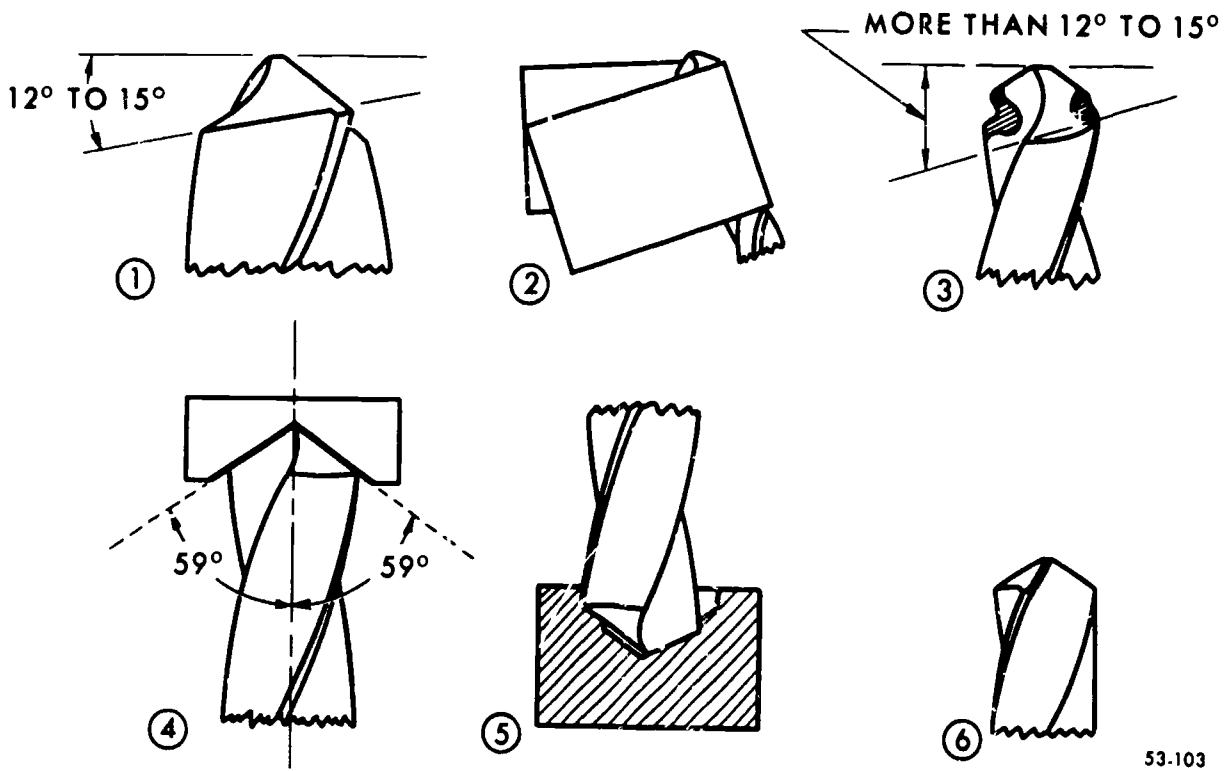
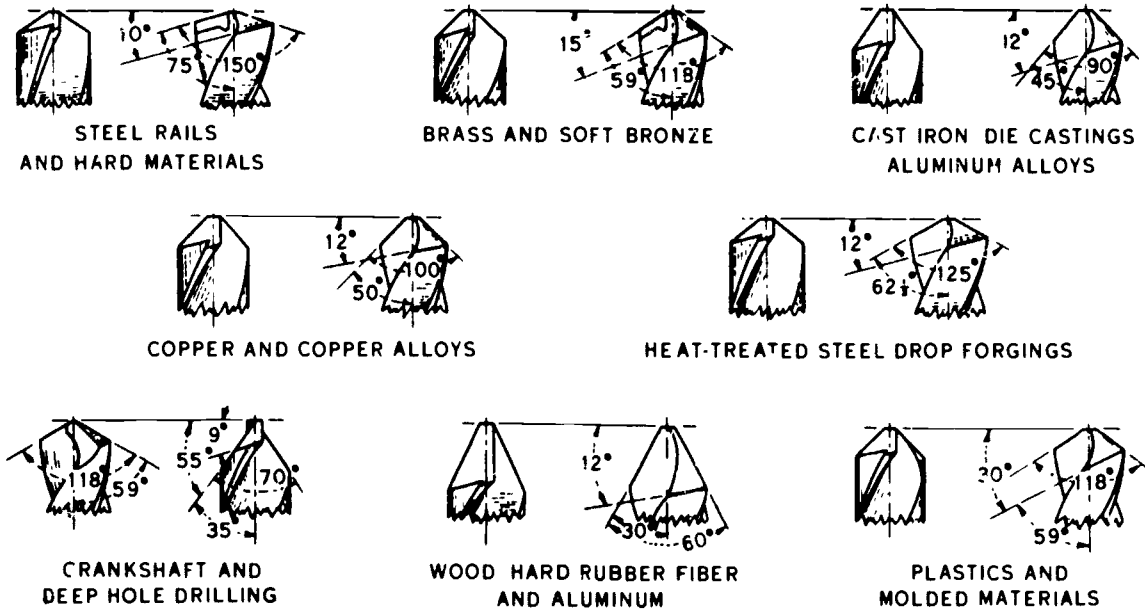

Figure 4-7 Drill grinding hints
Figure 4-8. Shapes of drill points.
**Exercises (241):**
**Determining Drill Angles.** Drills with a lip clearance angle of  $12^\circ$  to  $15^\circ$ , figure 4-7, part 1, and an included angle of  $118^\circ$  ( $59^\circ + 59^\circ = 118^\circ$ ), figure 4-7, part 4, are used for most general drilling operations on carbon and soft alloy steel. Harder materials require less clearance than do the softer ones. Too much clearance for the hardness of the material causes a rapid breakdown of the cutting edge, as shown in figure 4-7, part 3. Sharper included angles give faster, smoother production with soft materials. Flatter points have longer wear on drills used on hard, tough steels. Drills have a tendency to "hog-in" (grab) when drilling brass. Grinding the face of the cutting edge parallel to the drill axis, as shown in the illustration for brass and soft bronze in figure 4-8, helps reduce this problem. Drills used to drill any kind of thin metal should also be ground this way. As the drill is shortened by repeated sharpening, the web grows thicker. Maximum ease of penetration and wear resistance can be obtained by thinning the web to its original thickness. A "notched point," as shown in figure 4-8, is helpful when you drill deep holes. Figure 4-8 shows the recommended angles for various materials.
**Checking Drill Point Angles.** To sharpen a drill accurately, you must know how to check angles. You can check the cutting edge angle with a drill grinding gage, as shown in figure 4-12, or with the protractor head and blade, as shown in figure 4-13. You can also check the length of the cutting edge with these same tools. Both lips must be of equal length, or oversize holes will be produced, as shown in part 5 of figure 4-7, or the drill may break. Check the clearance angle by using a clearance gage made of paper. Use a strip of paper 3 inches wide and  $8\frac{1}{2}$  inches long. Place a mark on the margin  $1\frac{3}{4}$  inches from the lower side and bring the upper right-hand corner into contact with it, as in figure 4-7, part 2. Insert the drill in the gage and compare the clearance angle to the angle of the paper strip. The  $1\frac{3}{4}$ -inch dimension will produce an angle of approximately  $15^\circ$  while a 2-inch dimension will produce an approximate angle of  $12^\circ$ .
**Exercises (243):**